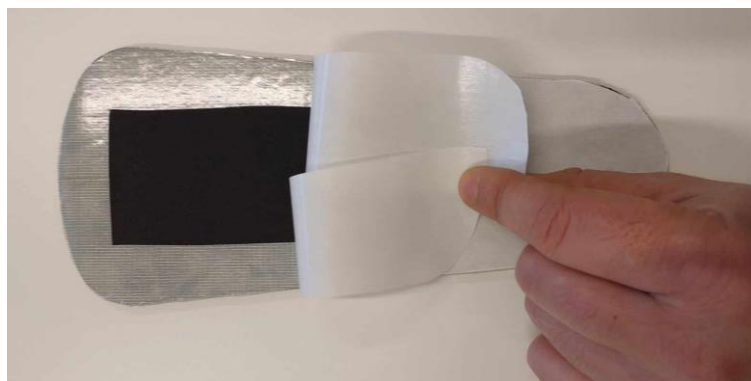

Figure 11. Peel of the adhesive.
11. Peel off the adhesive liner on the new cover sticker (Figure 11).